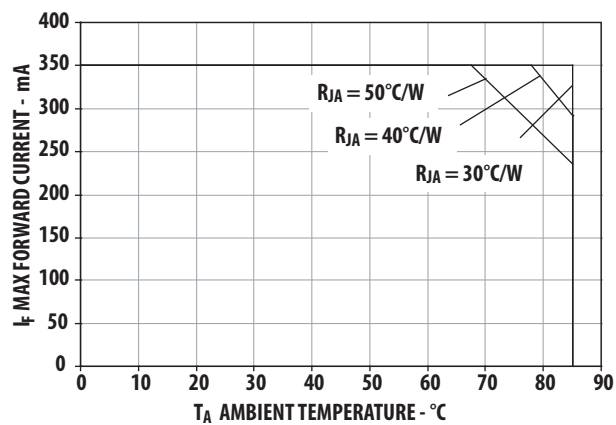
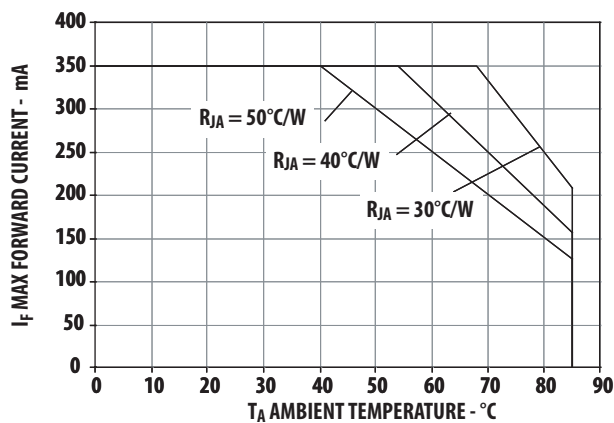

Figure 5. Maximum forward current vs. ambient temperature for AlInGaP
Figure 11. Maximum forward current vs. ambient temperature for InGaN
- DC forward current – derate linearly based on Figure 5 for AlInGaP & Figure 11 for InGaN.